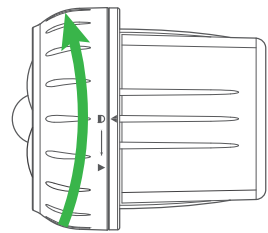

Figure 3
3. Align the ▲ marks then turn the front cover clockwise to the lock position ▼ to secure the battery compartment (see **Figure 3**).
3. Within 25 seconds, power up the spotlight by turning the front cover clockwise to the lock position ▼ to secure the battery compartment (see **Figure 3** on previous page). The Sensor Channel melody sounds with the corresponding Sensor Channel LED indicator blinking on the Indoor Alarm Receiver to confirm successful pairing.